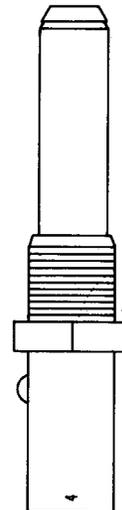

Fig. 5—454A Plug
**2.05 454A:** The 454A (Fig. 5) is a coaxial type plug arranged for solderless shield connection to a cable by means of a sleeve. The 454A plug is used with the 730A cable and is used in the 3A Wire Line Entrance Link.